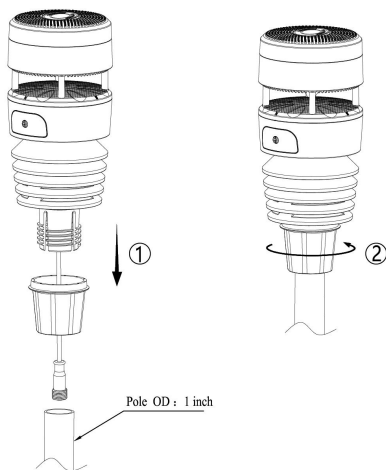

Figure 7 Sensor package mounting diagram
- You can attach a pole (not included) to a permanent structure and then mount the sensor onto it (refer to Figure 7 for guidance).